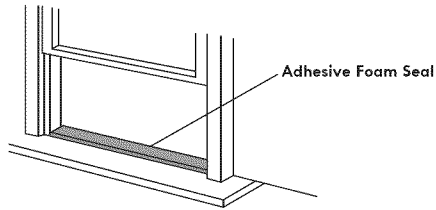

Fig.8
1. Cut a length of adhesive foam seal the width of the window and attach it to the window stool (see Fig. 8).